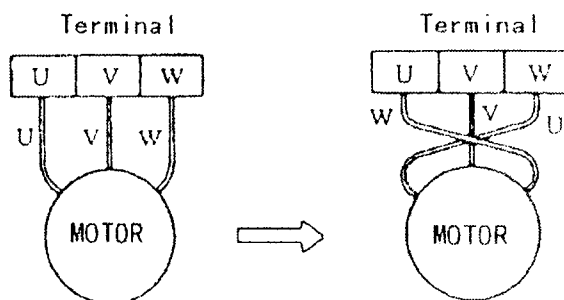

Figure 4
3. Check the direction of rotation by turning on pump. If the discharge volume is low or unusual sounds are heard, it is likely that rotation has been reversed. If this happens, reverse two of the three power cable wires. (see Figure 4)